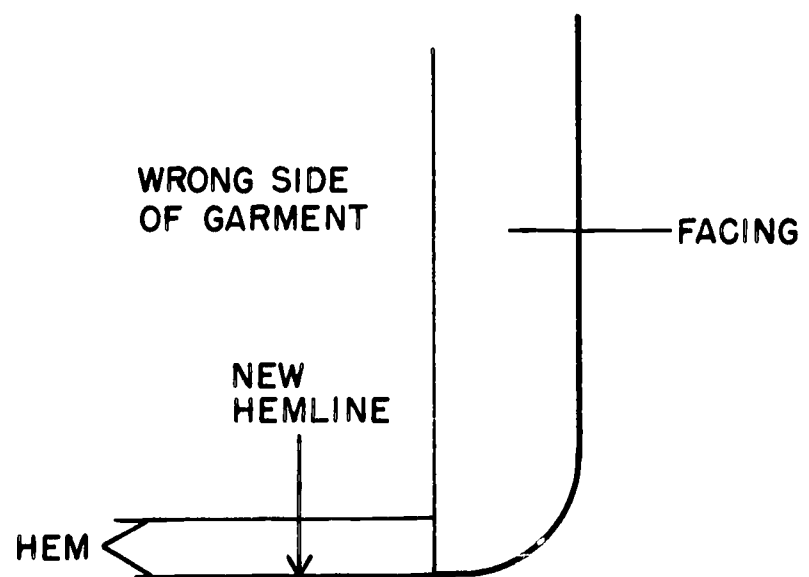

Figure 50.
10. Turn facing right side out and turn up new hem following the chalk line or pins made in step 5. Pin in place from the facing to the side seam (see Figure 50).